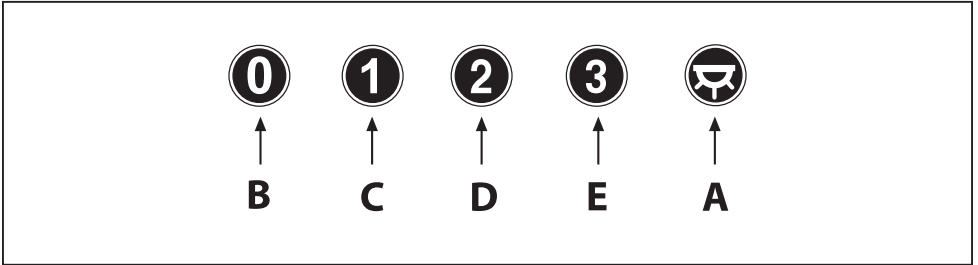

Fig.10
- **Commands mechanical (Fig.10)** the key symbols are explained below: